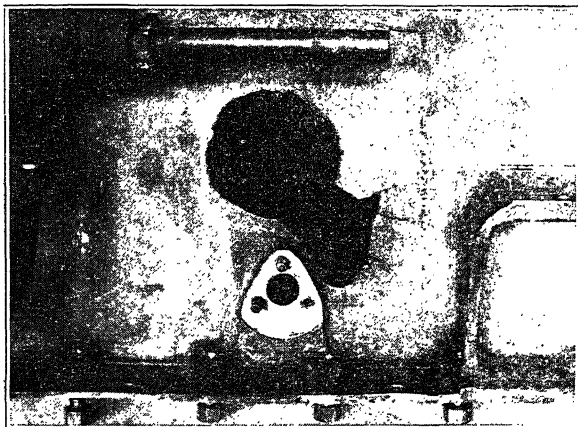
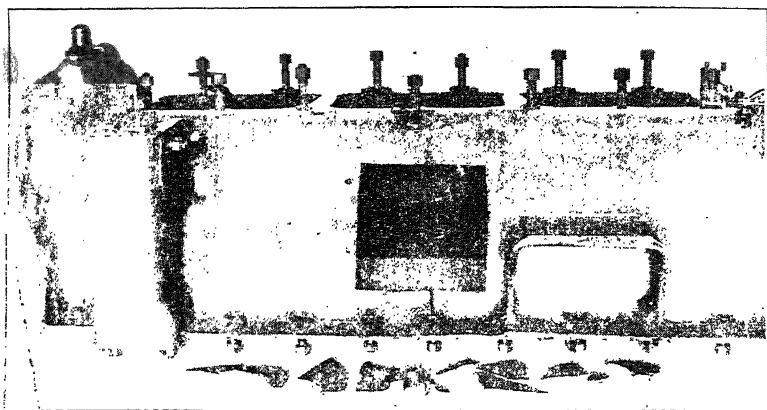

Fig. 10. Crank Case Damaged by Thrown Connecting Rod
Fig. 11. A Crank Case Ready for Application of a Patch
**Repairing Damaged Crank Case by Patching.** Fig. 10
ing, it not infrequently happens that a rod will go through the crank case, Fig. 10, without doing any particular damage to the case outside of knocking a hole through the side. In other words, the strength of the crank case is not seriously impaired. A repair which will seal the crank case against the loss of lubricating oil is all that is needed in such an instance. Fig. 11 illustrates the first step in making a repair where an accident of this general type has occurred.